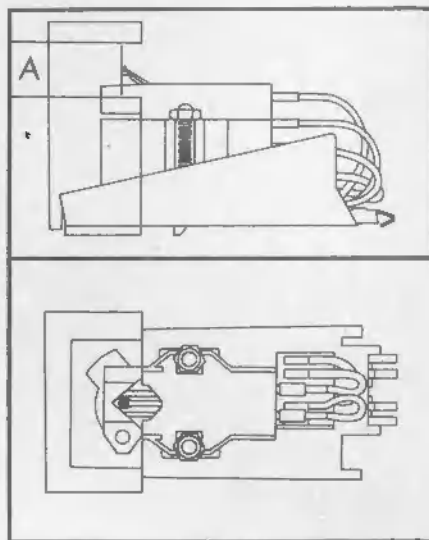

Fig. 15
3. The cartridge is mounted correctly when the stylus produces slightly into the notch of the gauge and when the stylus is also positioned vertically within range (A) (fig. 15).